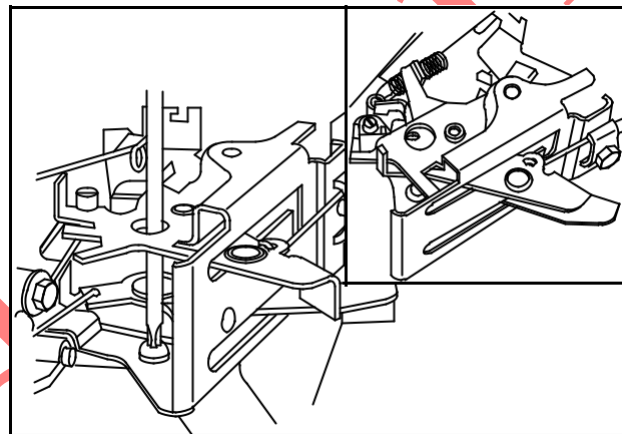

Fig. 93
1. Move throttle lever (top) to idle position and move choke lever (bottom) to full choke position, Fig. 93.
4. Install governor spring on governor tang, Fig. 93.